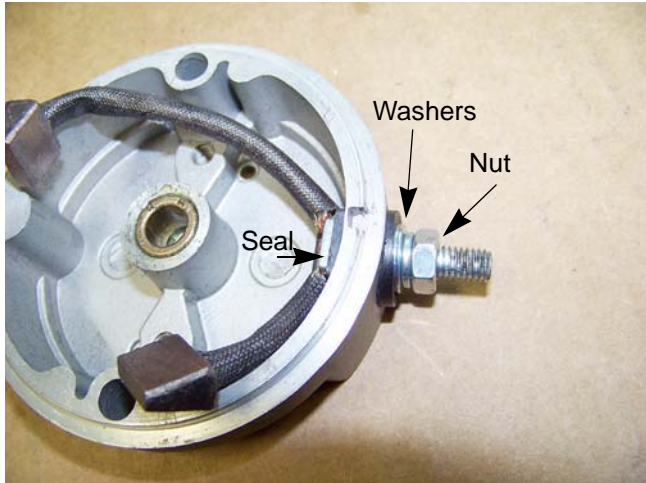

Figure 6.10
12. Remove the nut and washers from the cable stud using a 10 mm wrench. See Figure 6.10.